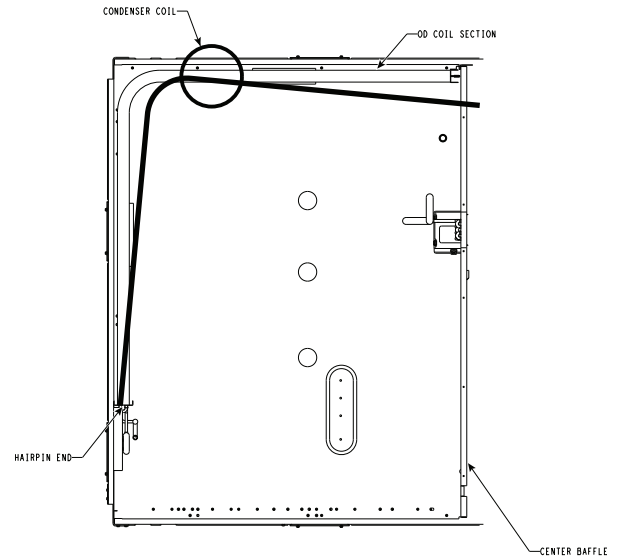

Fig. 23 — Separating Coil Sections (Top View)
8. Insert a spacer (field-supplied) between the tube sheets to hold the coils apart. See Fig. 23.